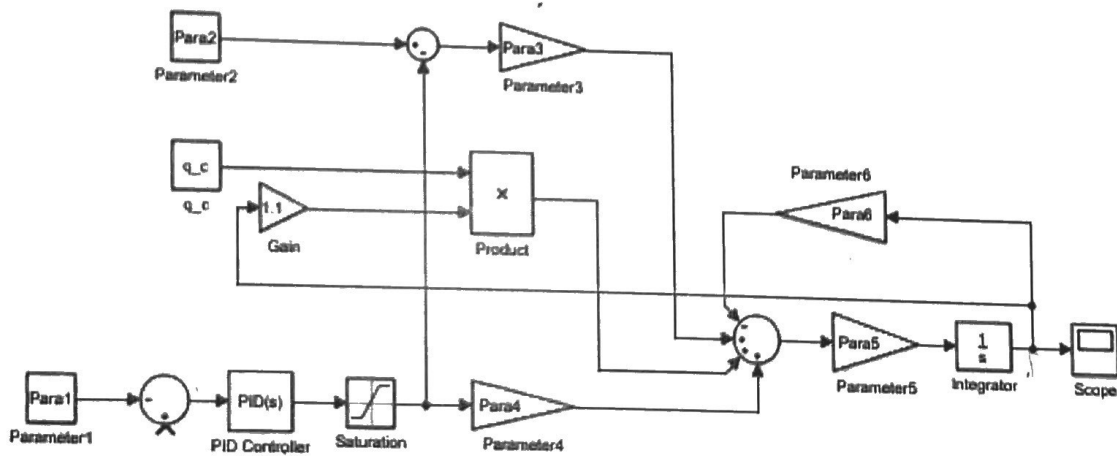

Figure 4 Simulink model
The incomplete Simulink model is given in Figure 4, where the information of Simulink components used in the model are provided in Table 7. Please
- (1) Make connections in Figure 4 in order to complete such model.
- (2) State how the PID controller works in the system.
- (3) There are some missing values of parameters in Figure 4. Please fill such values in Table 8 and describe them.